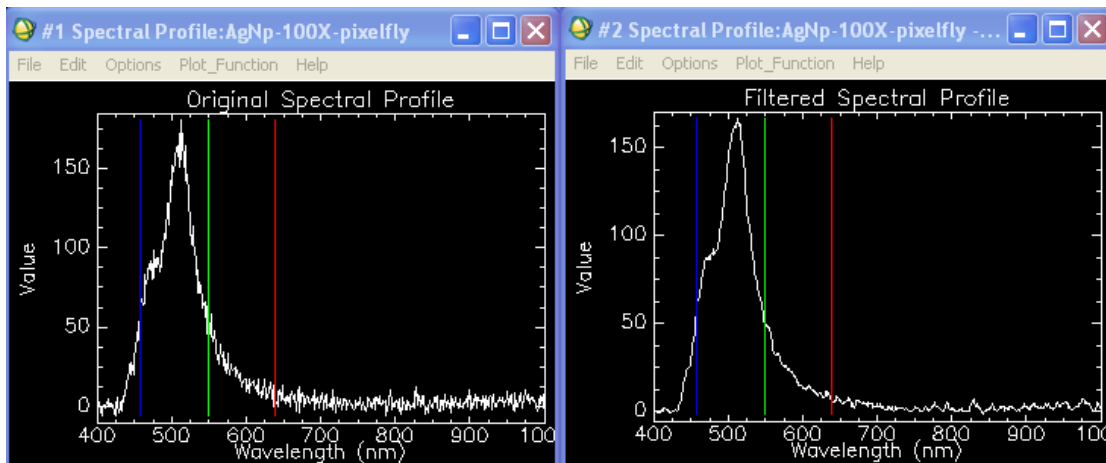

Figure 11i. Original Spectral Curve (left), Smoothed Spectral Curve (right)
- The spectral curves of a single pixel (Z-axis profile) are shown for the original and filtered data (Figure 11i).